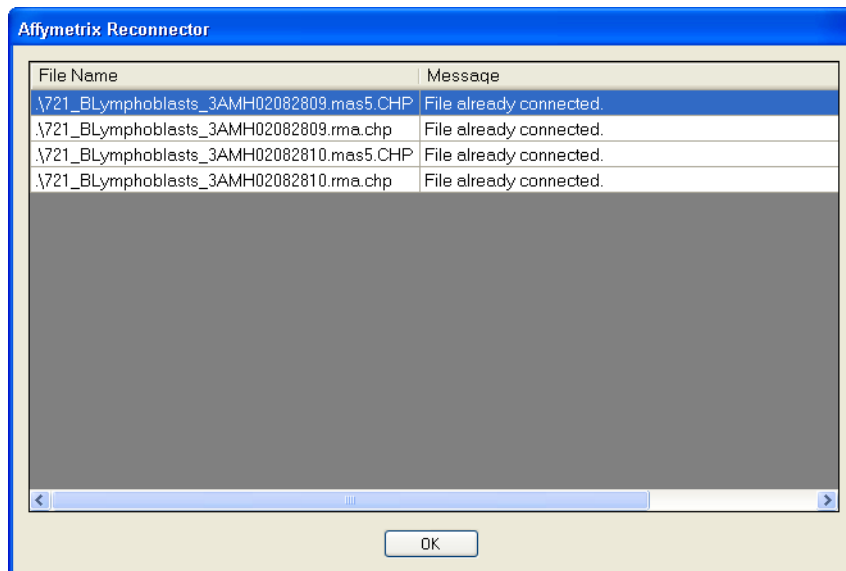

Figure 3.14 Filter dialog box
3. Click the Filter button to show a list of files that are not eligible for the merge operation (Figure 3.14).